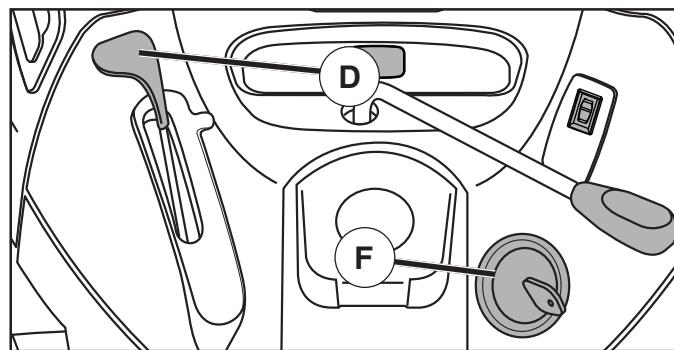

Fig. 6
- Move throttle control (D) to slow position.
- Turn ignition key (F) to "STOP" position and remove key. Always remove key when leaving tractor to prevent unauthorized use.
## TO USE THROTTLE CONTROL (D) (See Fig. 6)